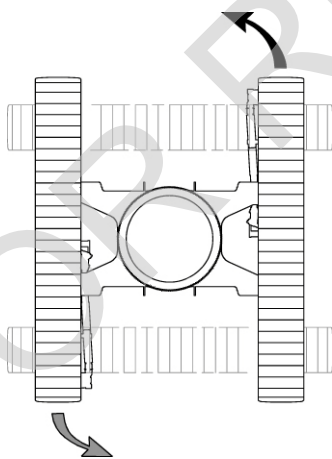

Figure 3-25. Counter-rotate Left
13. To COUNTER-ROTATE LEFT (Figure 3-25), move the right crawler control handle forward from the neutral position and move left crawler control handle back from the neutral position.